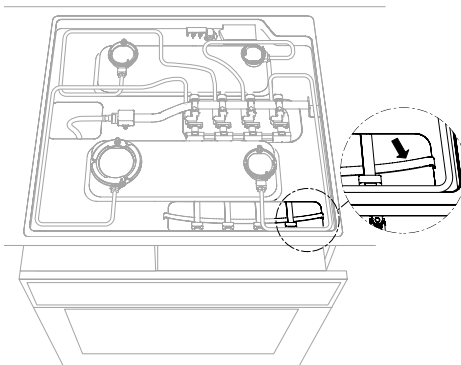

fig. 6
- Remove the protective devices that secure the cardan joints during transport (see fig. 6).